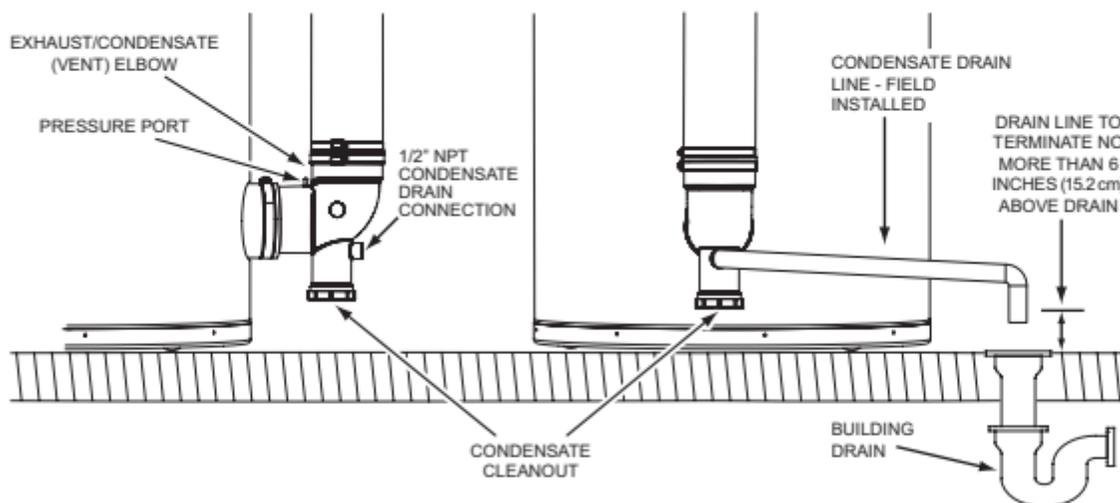

Figure 37. Condensate Drain Installation
2. Install a 1/2 inch PVC condensate drain line between condensate drain connection on the Exhaust/Condensate Elbow and a suitable building drain. The condensate line must slope to an open drain, see Figure 37.
3. Terminate the condensate drain piping with an elbow above the drain. Ensure that any discharge will exit the condensate drain line no more than 6 inches (15.2 cm) above a suitable building drain, or external to the building, see Figure 37.
4. Ensure the condensate drain line is not elevated above the condensate drain connection on the Exhaust/Condensate Elbow, see Figure 37.